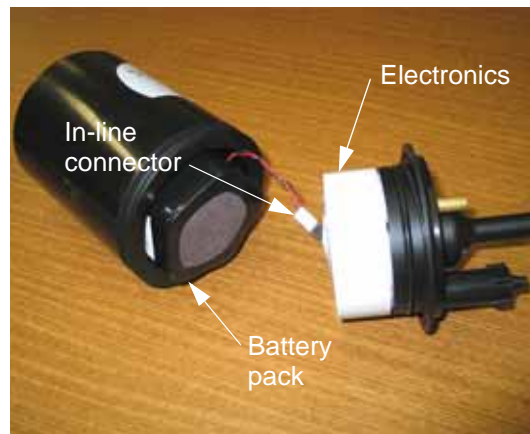

Figure 7-7: The End Cap Removed from the Housing
- 7 Carefully pull the end cap straight out from the housing and lay it on its side as shown in Figure 7-7. Leave the in-line connector, which connects the battery pack to the electronics, plugged in.